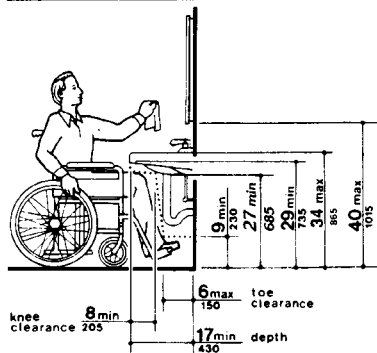

Fig. 31
4.19.2 Height and Clearances. Lavatories shall be mounted with the rim or counter surface no higher than 34 in (865 mm) above the finish floor. Provide a clearance of at least 29 in (735 mm) above the finish floor to the bottom of the apron. Knee and toe clearance shall comply with Fig. 31.